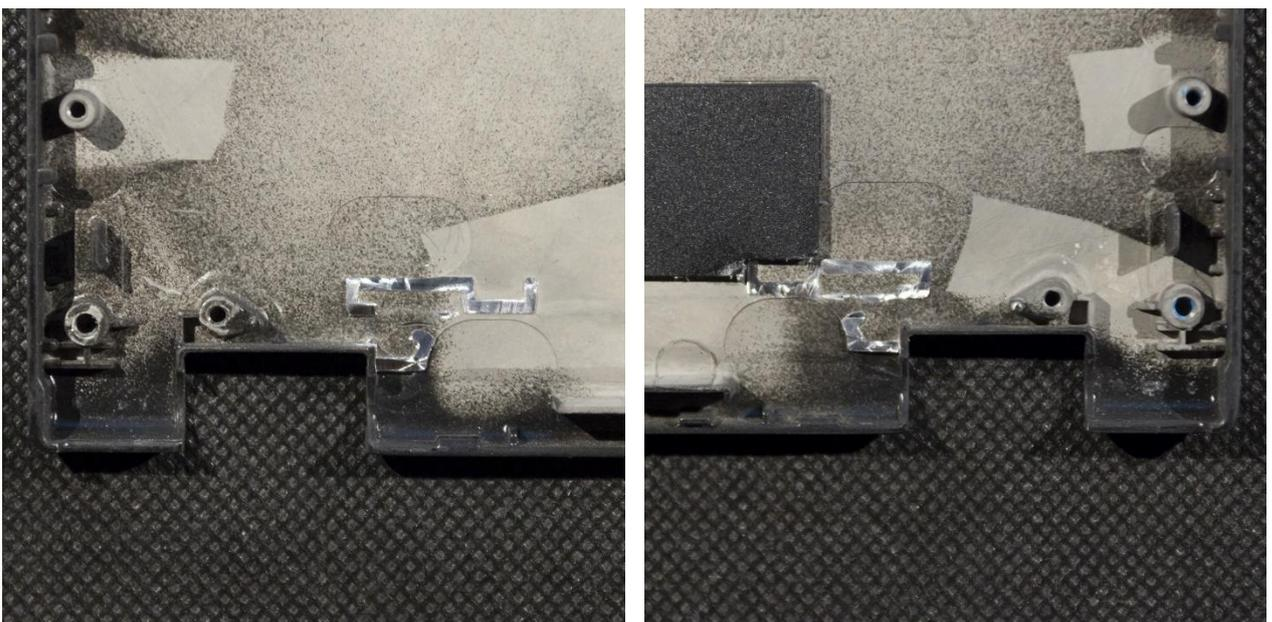

Figure 17. Removed spacers and cable guides
4. Remove the spacers and cable guides near the hinges as shown in figure 17. The best results are achieved using a mill, but you can also use Dremel or a similar tool, or a pair of pliers;